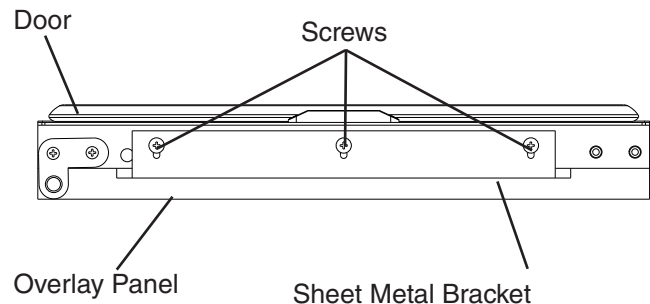

**Fig. 16**
- 4) Remove the overlay panel from the door and tighten the two M4×8 truss head screws securing the sheet metal bracket to the overlay panel. See Fig. 16.